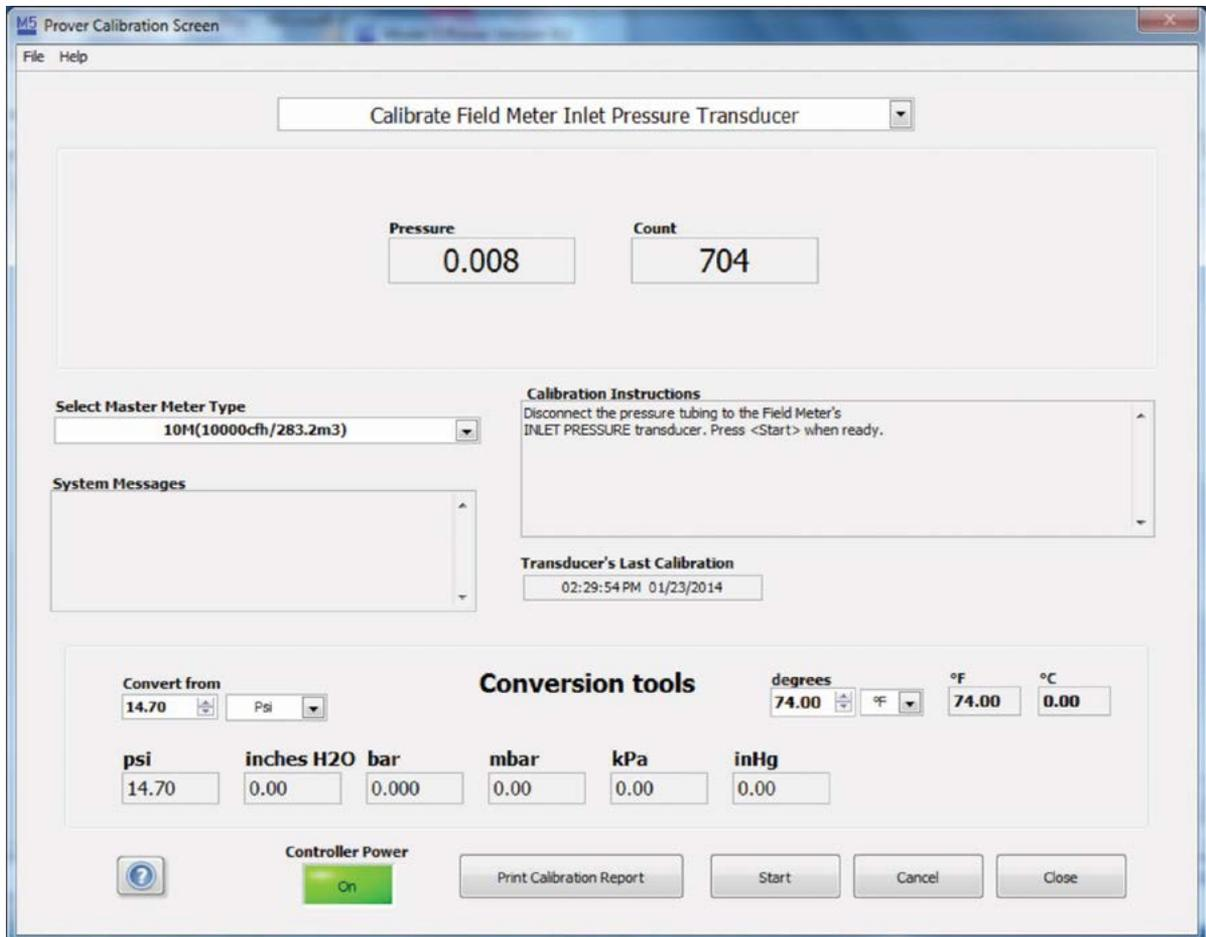

Figure 128: Select Calibrate Field Meter Inlet Pressure Transducer
- From the Prover Calibration Screen, select the pull down arrow and click "Calibrate Master Meter Inlet Pressure Sensor Transducer." Refer to **Figure 128**.